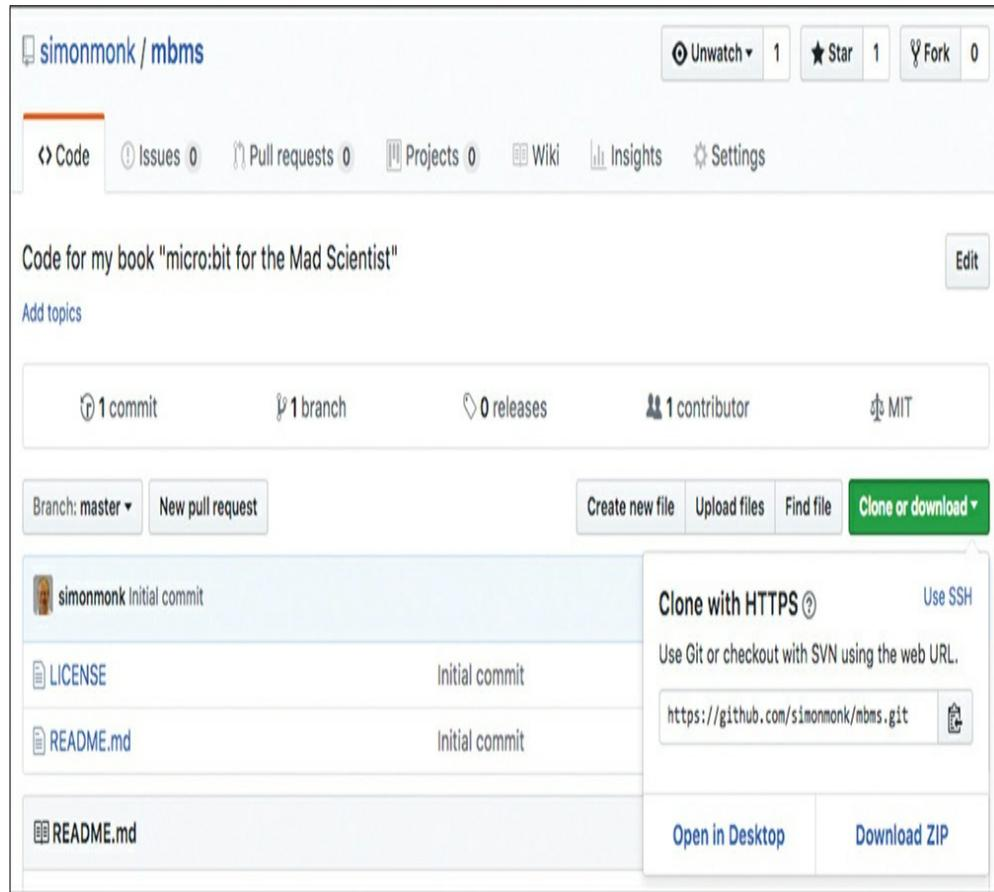

Figure 1-21: Downloading the code for this book
1. Visit [`https://github.com/simonmonk/mbms/`](https://github.com/simonmonk/mbms/) and then click the green **Clone or download** button and select **Download ZIP**, as shown in Figure 1-21.